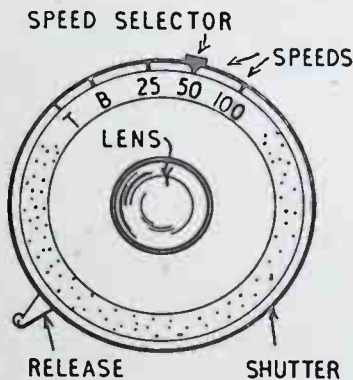

Fig. 1—A 3-speed shutter
Start construction by cutting item (A) (Fig. 1) from $\frac{3}{4}$ in. thick deal. It measures 29 $\frac{1}{2}$ ins. by 24ins. Trim the edges smooth and square and at the dimension given glue and panel pin in place the $\frac{3}{4}$ in. by $\frac{3}{4}$ in. supporting strip for the centre shelf.
To anchor the free end of the table to the wall first make a wooden angle made up of two pieces of 1½ in. by ½ in. wood glued and screwed together as shown in Fig. 1. Glue and screw in place the 1½ in. by 1 in. triangular wooden end pieces and drill one flange of the angle
The baking board is a piece of deal or plywood 2 ft. square, ¼ in. thick. Cut and trim this dead true and face it with plastic. Round off the lower edges of the board to allow for the radius in the corners of the Z rails and try for a smooth push-fit. Trim where necessary to obtain this. Cut and glue in place the wedge-shaped handles (Fig. 1). Finally fix a strip of plastic to the front edge of the board.
¼ in. thick plywood pinned and glued round a framework which consists of three curved formers, details (F) and (F1), glued to three uprights, details (G) and (H) — see Fig. 1.
The type of shutter found on all the most popular cameras resembles that in Fig. 1. Selection of speeds, etc., may be by moving a small lever, as shown, or a milled ring on the shutter may rotate. The latter are called 'Rimset' shutters, and are much used on the newer cameras.
Fig. 1 shows how speeds are marked on modern shutters, 25 indicating 1/25th second, 50 indicating 1/50th second, and so on. On old shutters the fraction is sometimes given complete. The fast speeds, such as 1/100th second, are very useful for moving objects.